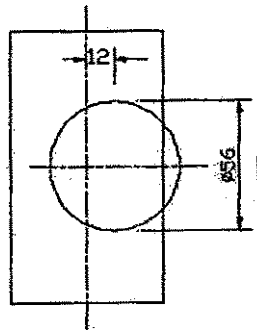

Fig. No. 1
- g) Fig. No. 1 shows side view of two penetrating solids. State the position of both solids with H.P and V.P.